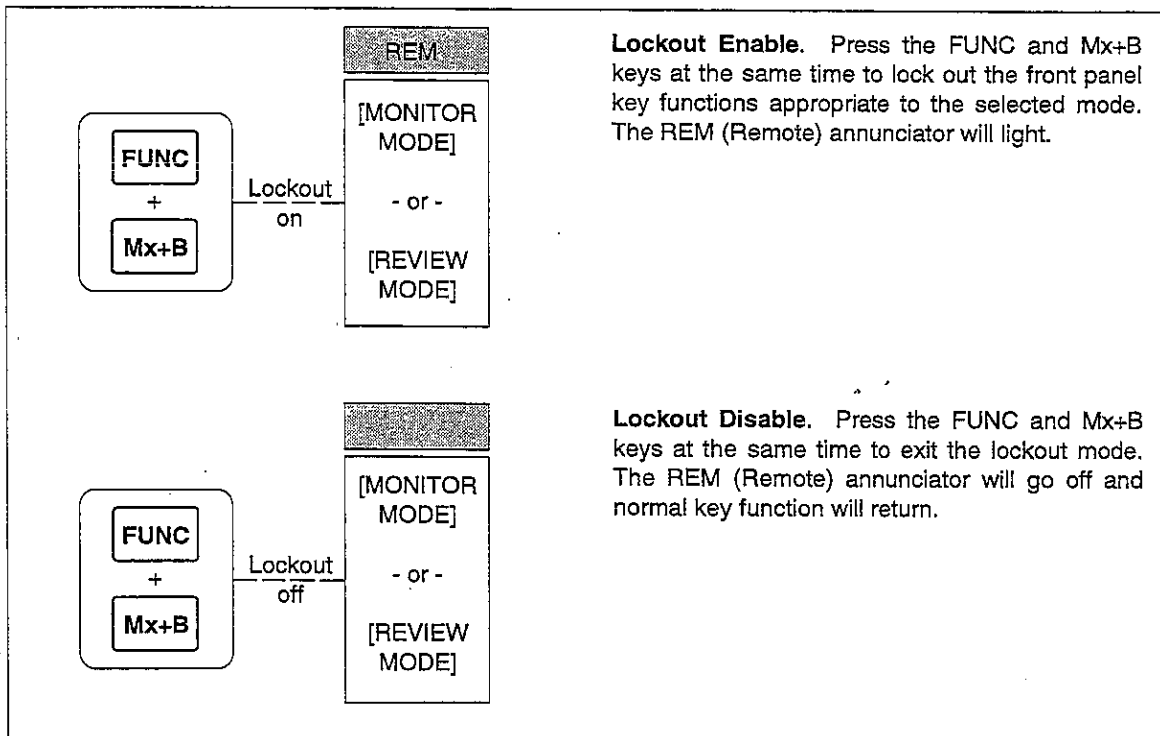

Figure 2-24. Front Panel Key Lockout Options
- Front Panel Key Lockout Option (Figure 2-24)
Perform the procedure in Figure 2-23 to return the instrument from the remote mode to the local mode. When the instrument is operated over the RS-232 computer interface, the computer can disable all front panel controls except the SCAN key, which lights the REM annunciator (bright). If the REM annunciator is dim, the front panel keys are locked out (see Figure 2-24).
Perform the procedure in Figure 2-24 to lockout the front panel key functions. There are three lockout features: